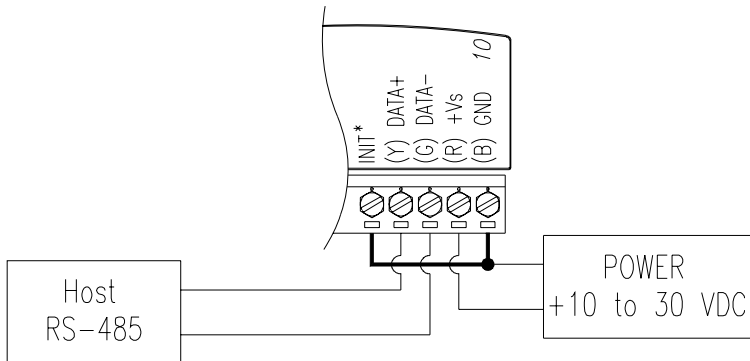

Figure 2-3 Grounding the INIT* Terminal
- Power the MIR module on while shorting the INIT* and GND terminals (See Figure 2-3) or set the INIT switch to “Init” (See Figure 2-4)